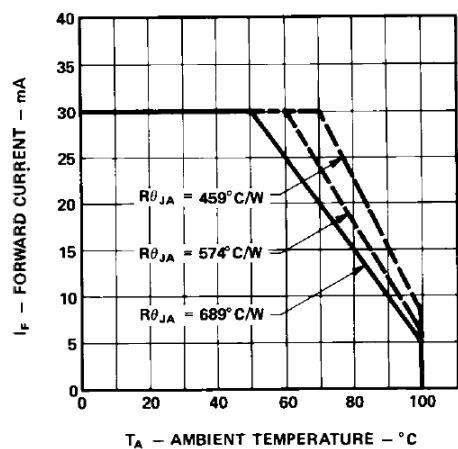

Figure 5. Maximum forward dc current vs. ambient temperature. Derating based on $T_J \text{ MAX.} = 110^\circ \text{C}$.
3. Derate linearly as shown in Figure 5.